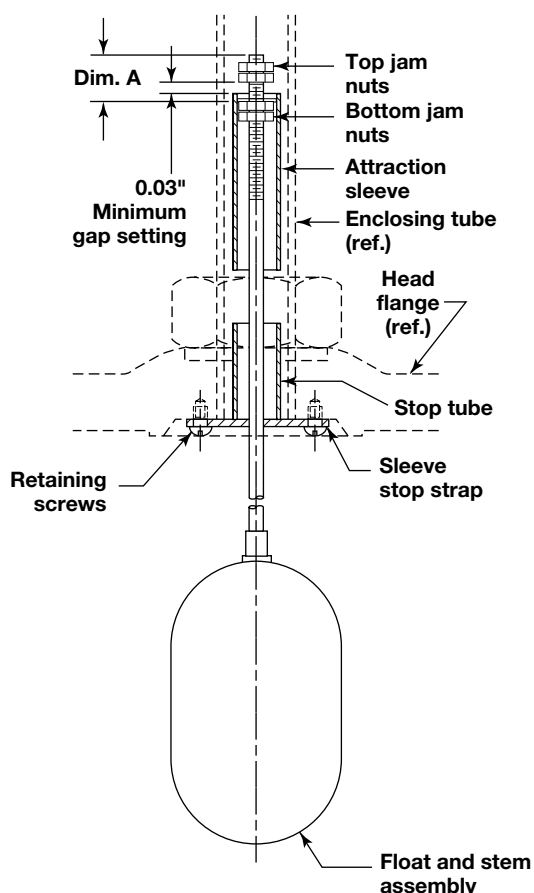

Figure 10
- a. Remove the stem assembly including attraction sleeve from the head assembly by removing the two screws holding the stop strap to the bottom of the flange. See Figure 10 for assembly schematic.